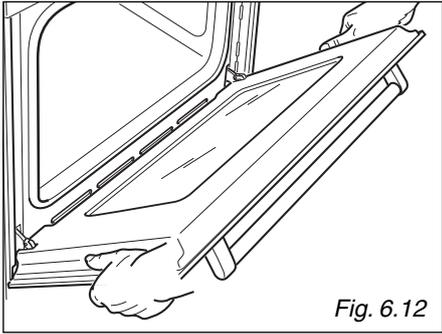
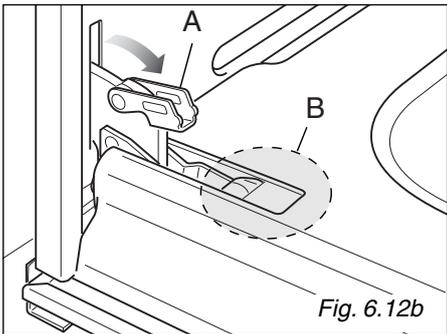

Fig. 6.12
Fig. 6.12b
- Open the lever "A" completely on the left and right hinges (fig. 6.12b).
- Hold the door as shown in fig. 6.12.
- Gently close the door (fig. 6.12) until left and right hinge levers "A" are hooked to part "B" of the door (fig. 6.12b)